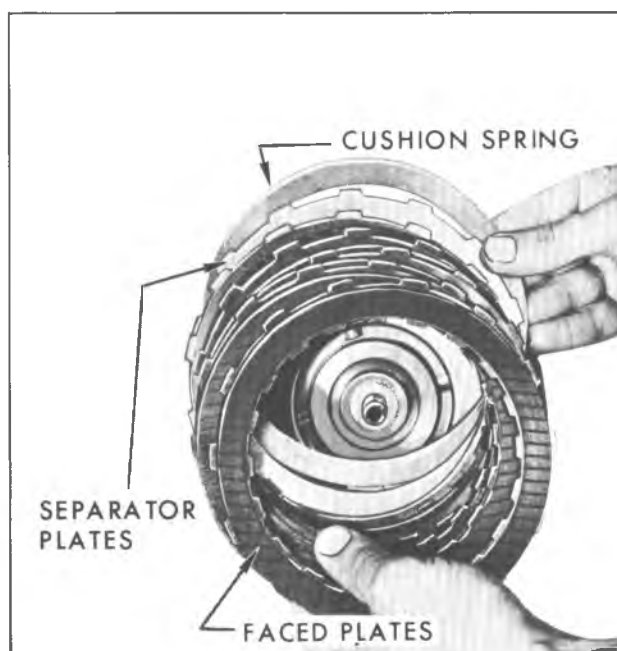

Fig. 79M--Removing Forward Clutch, Clutch Pack
2. Remove face plates, steel separator plates and cushion spring (fig. 79M).